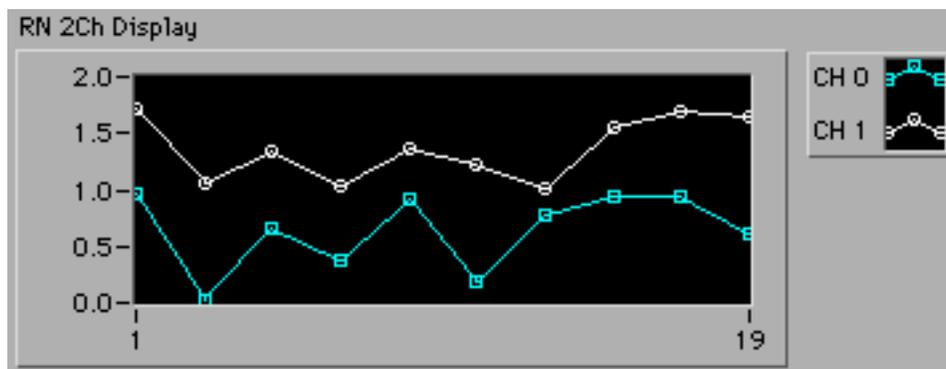

Figure P5.6
- 5.6** Modify **P05_05.vi** such that x -axis indices for both channel data are now 1, 3, 5, 7, ..., 19, and all of the other information is identical. The complete front panel is shown in Figure P5.6. Save the VI as **P05_06.vi**.